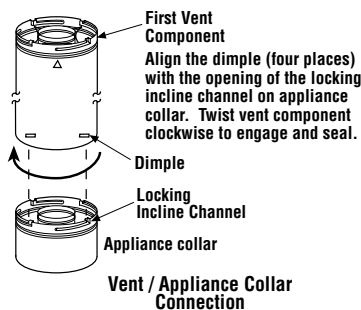

Figure 20
B. Attach vent components to appliance - **Secure Vent** SV4.5 direct vent system components are unitized concentric pipe components featuring positive twist lock connections (*see Figure 20*).
To attach a vent component to the appliance collar, align the dimpled end over the collar, adjusting the radial alignment until the four locking dimples are aligned with the inlet of the four inclined channels on the collar (*refer to Figure 20*). Push the vent component against the collar until it fully engages, then twist the component clockwise, running the dimples down and along the incline channels until they seat at the end of the channels.
D. Attach vent components to appliance - To attach a vent component to the appliance collar, align the dimpled end over the collar, adjusting the radial alignment until the four locking dimples are aligned with the inlets of the four incline channels on the collar (refer to **Figure 20 on page 15**).